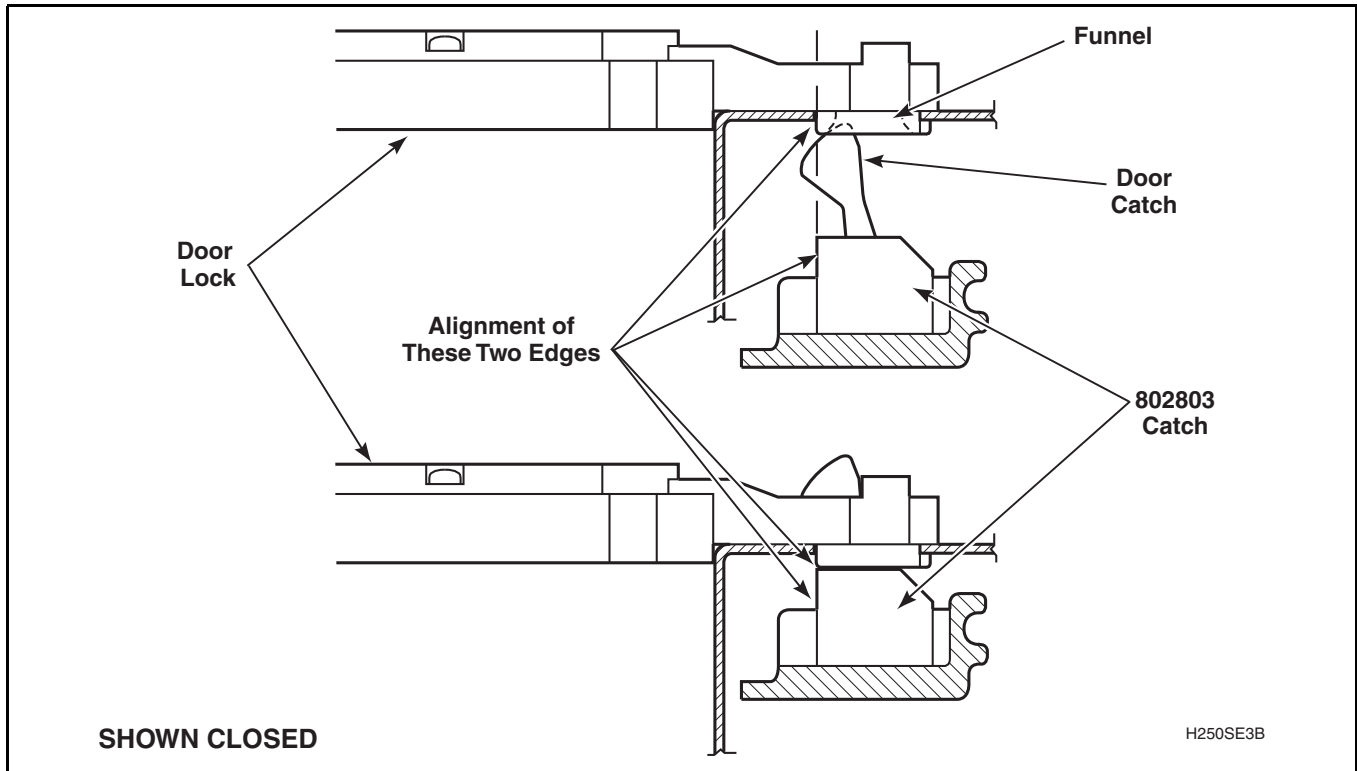

Figure 16
- f. Adjust door catch so the outside edge is aligned with the edge of the lock. Refer to *Figure 16*.
- g. Visually check that the door catch properly engages the funnel of the door latch/switch assembly. Refer to *Figure 16*.